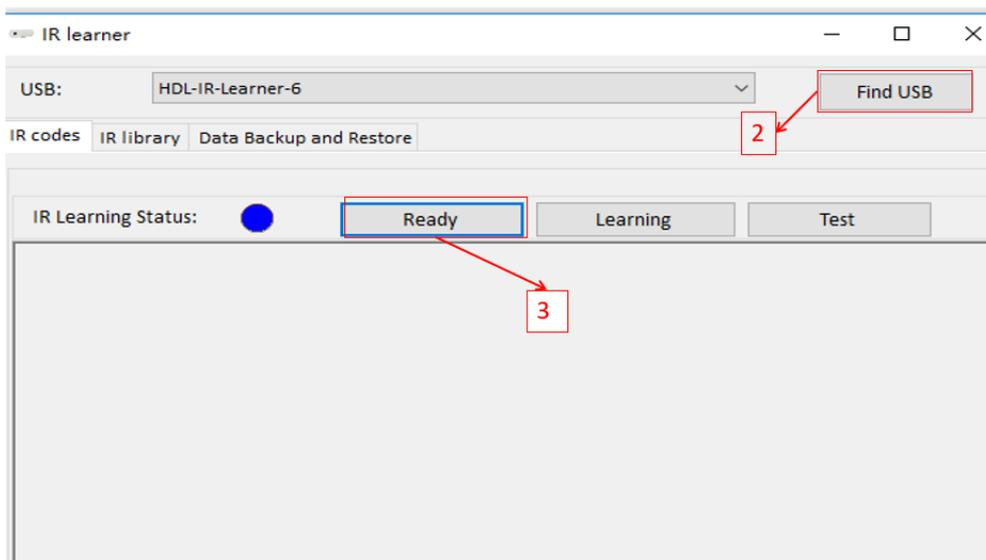

Figure 2-3. IR Learner Ready
Step 3: Click “Ready”, IR learner red and blue light will be turned on. See Figure 2-3 – IR Learner Ready